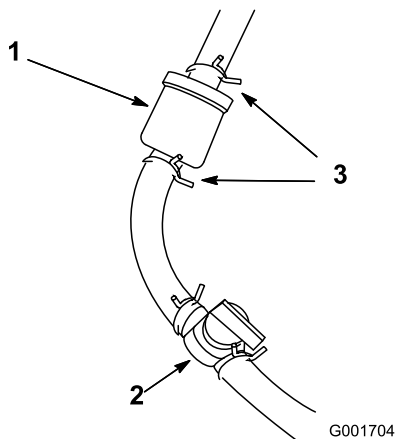

Figure 34
3. Close fuel shut-off valve (Figure 34).
4. Loosen the hose clamp at the fuel filter and slide it away from the fuel filter (Figure 34).
5. Pull the fuel line off fuel filter (Figure 34). Open fuel shut-off valve and allow gasoline to drain into a gas can or drain pan.
6. Install the fuel line onto the fuel filter. Slide the hose clamp close to the fuel filter to secure the fuel line (Figure 34).